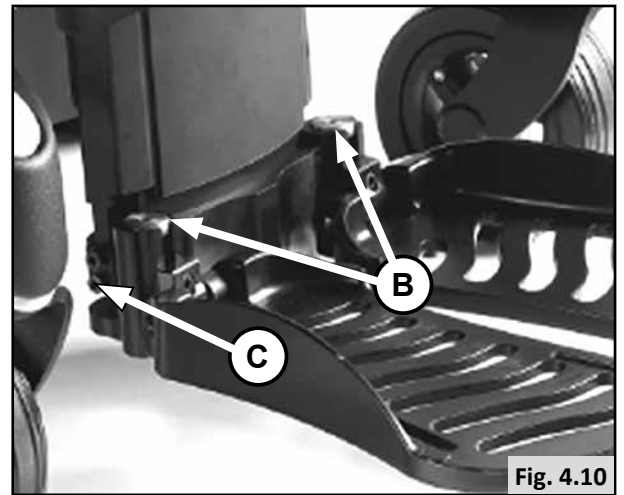

Fig. 4.10
### 4.4.1 Pre-set lower leg length (Fig 4.10):
- Loosen 4 bolts (A)
- Turn screw B (fig 4.10) to adjust footplate height.
- Tighten 4 bolts (A)